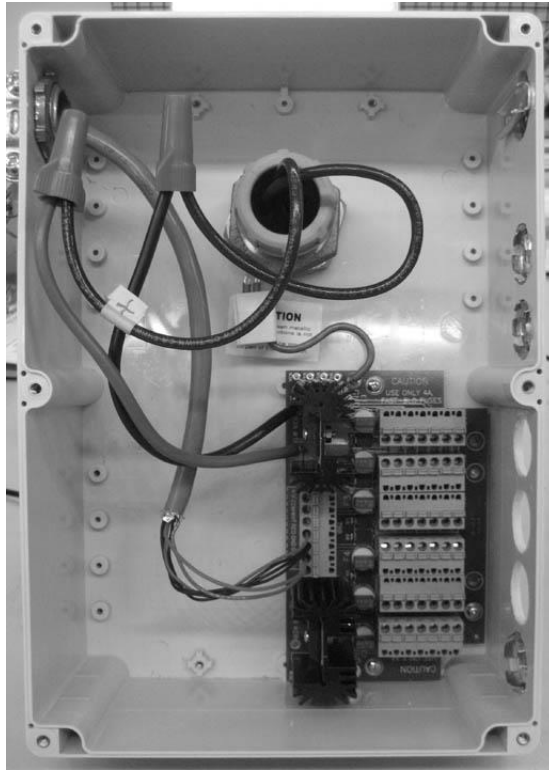

Figure 7: Distribution Panel / Fuse Box (Shown with power and dimming input)
11. Using a section of the paired PLTC Cable, route the control leads from the signal filter(s) to the fuse box. See Figure 7, and appropriate installation drawing in Appendix A.